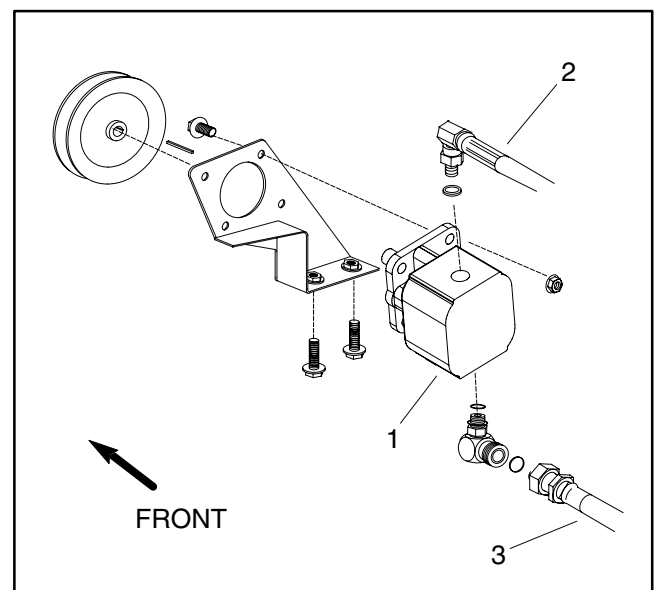

Figure 11
5. Clean hose fitting and disconnect pressure hose from the top of the steering pump (Fig. 11).